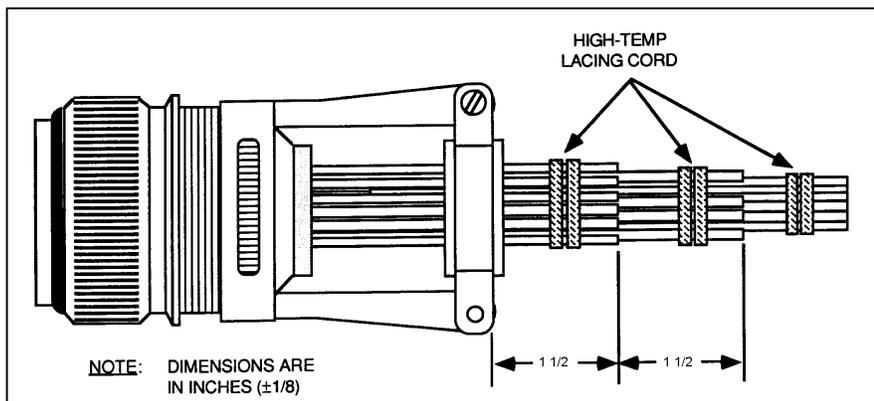

FIGURE 11-39. Stub wire installation.
a. Firewall Connectors Installations. Firewall unused connector contact cavities should be filled with spare contacts and stub wires. (See figure 11-39.)
(1) Construct stub wires using high temperature wire (260 SC). Ensure that stub wires are of the same type of wires in the bundle.
(2) Crimp the proper contact, for the connector and cavity being used, onto the wire. Install the crimped contact into the unused cavity.
(3) Extend stub wires beyond the back of the connector clamp from 1.5 to 6 inches. Feather trim stub wires to taper wire bundle.
(4) Secure wire ends with high temperature (greater than 250 SC) lacing cord. Nylon cable ties are not allowed for this installation.